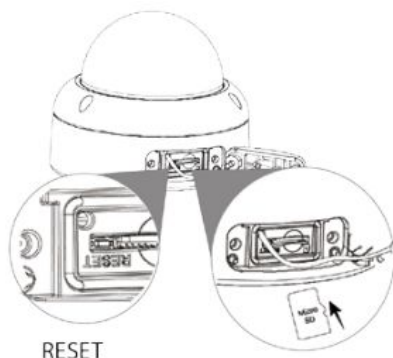

Figure 2-8
Step 3 Disconnect the power before installing or removing the SD card. Install the SD Card as shown in Figure 2-8.